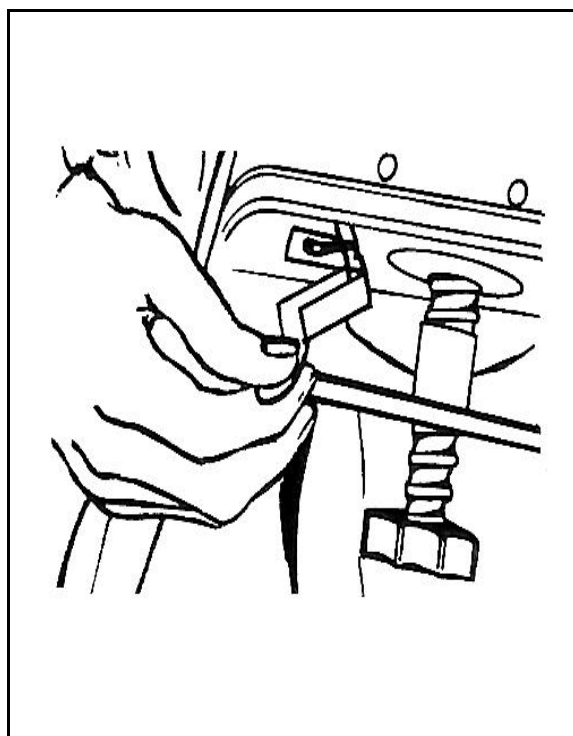

Figure 11-46. Putting on the OBA, Step 9
- **Step 9.** Start a self-start canister as follows. Locate the small triangular metal tab on the metal box at the bottom of the canister. Grasp the tab with the thumb and index finger of your right hand and pull it downward (Figure 11-46, page 11-60). The small metal box will come away from the canister, exposing a lanyard. Grasp the lanyard with your index finger and thumb and pull it straight out away from your body. Do not pull down on the lanyard. The correct action will activate the chemicals in the canister, filling the breathing bag with oxygen. If the lanyard breaks and does not activate the self-starter, use the manual-start procedure in step 10.